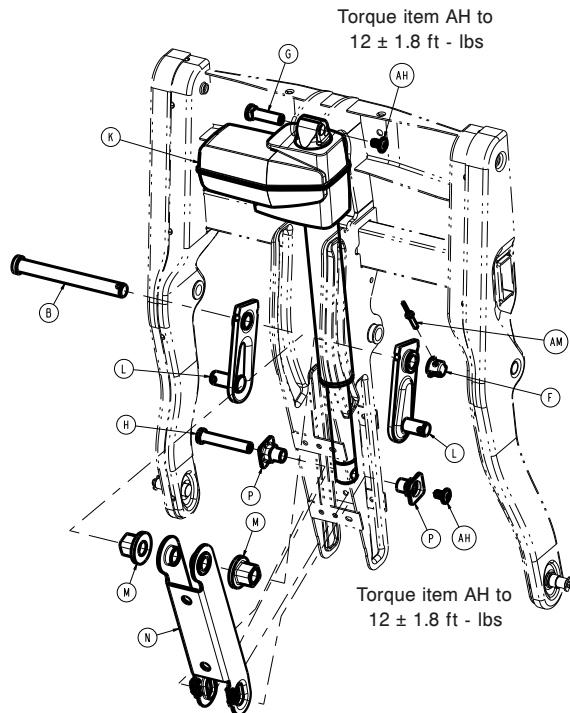

Figure 47 – Replacing the lift actuator
12. Using a ratchet and two T40 Torx drivers, remove the screw (AH) and lift foot pin (H) that secure the top of the actuator to the lift mechanism (Figure 47). Hold the lift foot pin in while you loosen the screw.